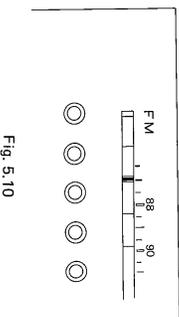

Fig. 5.10
- Note: In setting the dial threading the Light Intercepting Box, fully turn Tuning Dial counter-clockwise so that the red pointer on Dial Scale is fitted to the graduation next to the left end as shown in Fig. 5.10.